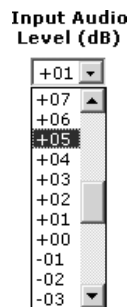

Figure 6-14 — Gain drop box
4. Click the Input Audio Level (dB) drop box. A drop-down scroll box appears (figure 6-14).